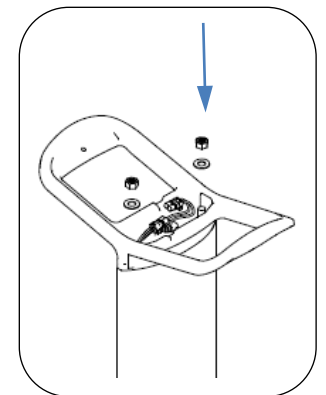

Fig. 7 – secure light head
4. Install washers and nuts onto threaded rods, see Fig. 7. Tighten fully.